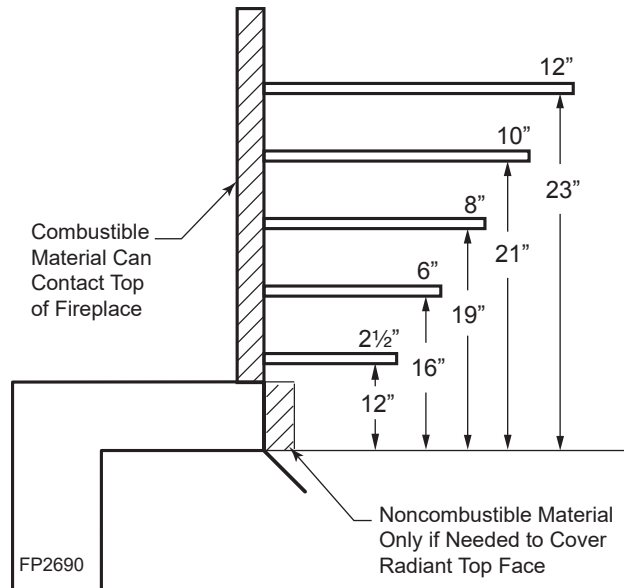
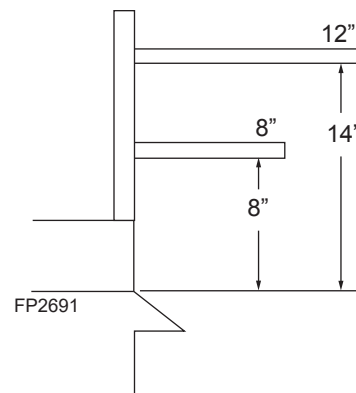

Figure 5 -
Figure 6 -
- 4. Mantel clearances:** The canopy supplied with the unit must be installed. If a combustible mantel is installed, it must meet the clearance requirements as shown in *Figure 5*. However, if lower mantel height is desired, refer to Page 14, *Figure 6*.